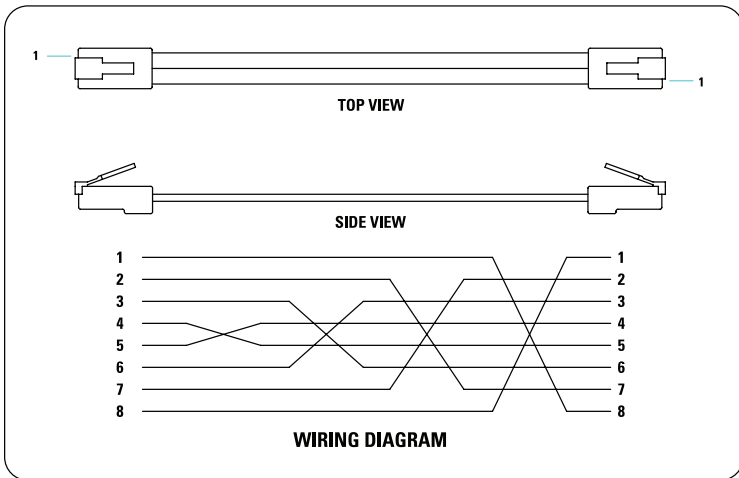

Figure 4. IQ Power Crossover Modular Cable (black)
- C. **Connect Control Station.** The Control Station supplies 24 VDC power for the IQ Power static eliminator power supplies. Use the 7.62 meter [25 foot] (black) modular cable supplied with HLC. Longer cables (not supplied) are available. Cables must be IQ Power 8-conductor modular cables with RJ-45 connectors wired “crossover” (reference color: black, Figure 4).
Use the 7.62 meter [25 foot] (black) modular cable supplied with HLC. Longer cables (not supplied) are available. Cables for Sensor Interface must be IQ Power 8-conductor modular cables with RJ-45 connectors wired “crossover” (reference color: black, Figure 4).